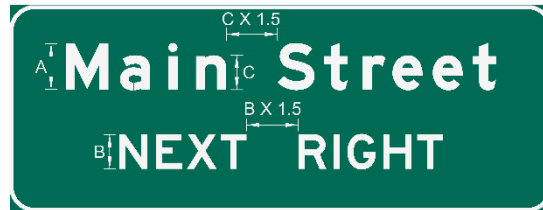

Figure A4
5. The horizontal word to word spacing for mixed case messages shall be equal to one and one-half times the lower case letter. See Figure A4. Note: To get the proper spacing when using GuidSIGN, set the text spacing between words to 1.125 x the smaller text height.
6. Horizontal spacing between words in all upper case letters using Series E fonts shall be equal to approximately one and one-half times the height of the letter, but in no case less than the height of the letter. See Figure A4.